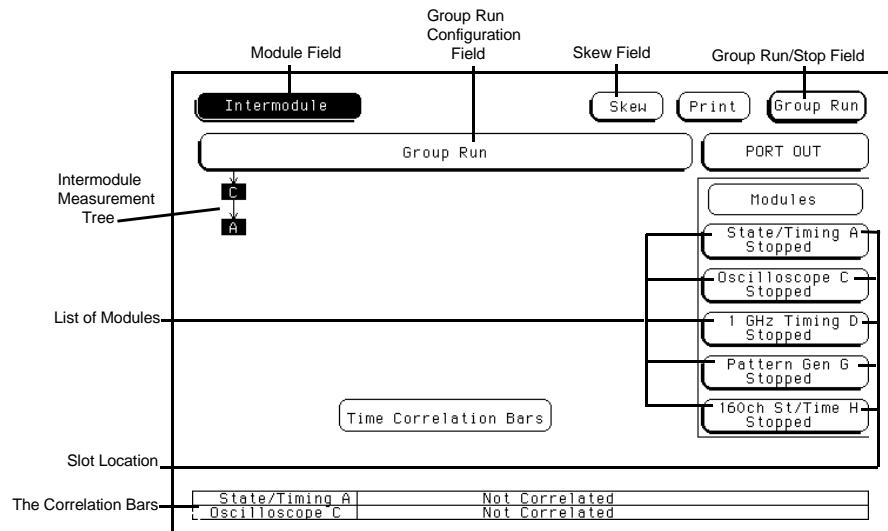

Figure 12-1. The Intermodule Menu.
To bring up the **Intermodule** menu, touch the module field (**System**) in the upper-left corner of the display. When the pop-up appears, touch **Intermodule** to bring up the **Intermodule** menu (see figure 12-1).
1. You can set up modules to run independently or within an intermodule measurement. Initially, the intermodule configuration tree (see figure 12-1) is empty, with all the modules running independently. Intermodule measurements are configured by adding modules to the intermodule configuration tree. Modules that appear directly below the large **Group Run** field are armed immediately after the **Group Run/Stop** field in the upper-right corner is touched. Modules that appear below other modules are armed when the preceding module finds its trigger.